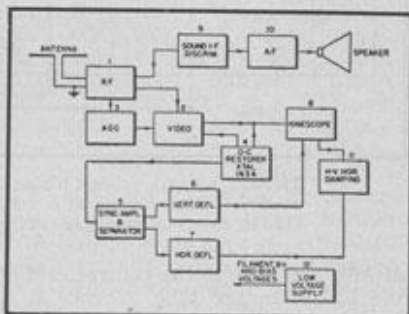

Fig. 2. The video i.f. section of the Model P-520 receiver employs six 6J6 duo-triodes to provide five and one-half stages of amplification in cascade.
2. *Video Section.* The video i.f. section employs six 6J6 duo-triodes in a unique circuit arrangement. One section of each tube is cathode-coupled, while the other section operates as a grounded-grid amplifier. The signal is coupled from the first section to the second by means of a common cathode circuit, by grounding the grids of the second triode sections. The output of each grounded-grid amplifier is fed to the next stage through a bridged-T coupling network, providing a wide bandpass (4.25 mc.). Five and one-half of these stages are used in cascade. This circuit is shown in Fig. 2.